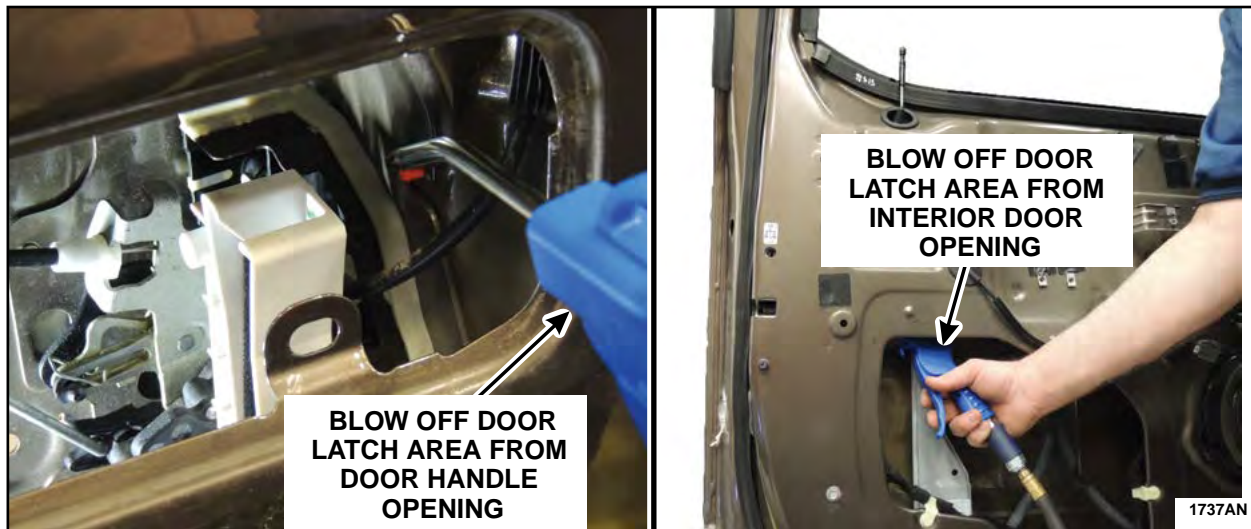

FIGURE 15
2. If not previously performed, use compressed air and blow out any debris or residual water from the door latch assembly, exterior door handle mechanism and cables for thirty seconds. Blow drying with compressed air for thirty seconds is critical to remove as much moisture as possible. See Figure 15.